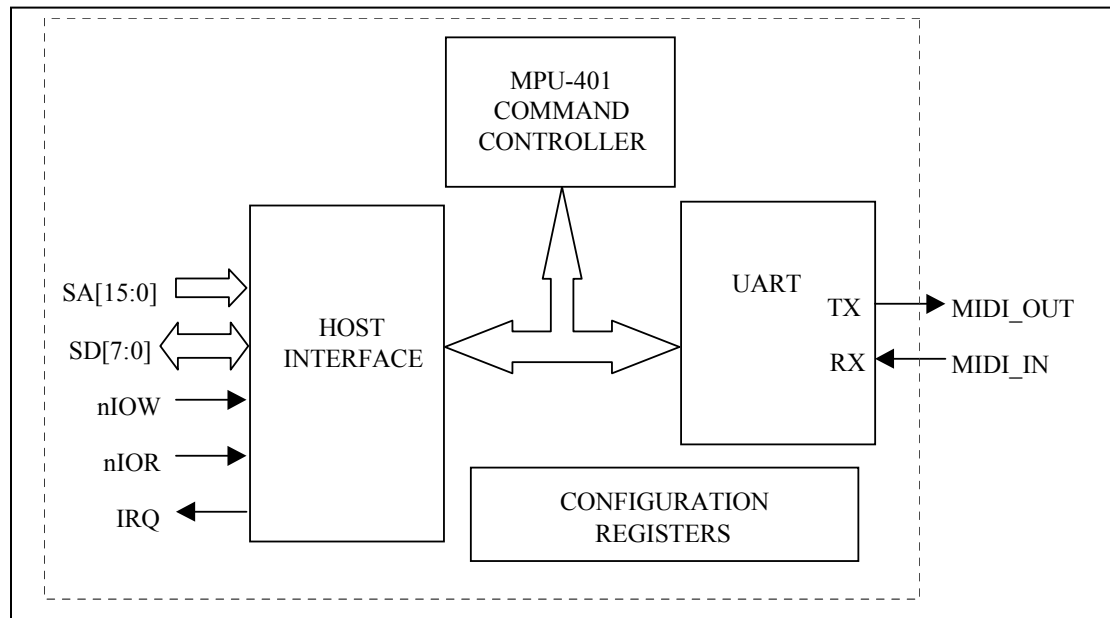

FIGURE 2 - MPU-401 MIDI INTERFACE
Serial Port 3 is used exclusively in the LPC47M112 as an MPU-401-compatible MIDI Interface. The LPC47M112 MPU-401 hardware includes a Host Interface, an MPU-401 command controller, configuration registers, and a compatible UART (Figure 2).
The Host Interface includes two contiguous 8-bit run-time registers (the Status/Command Port and the Data Port), and an interrupt. For illustration purposes, the Host Interface block shown in Figure 2 uses standard ISA signaling. Address decoding and interrupt selection for the Host Interface are determined by device configuration registers (see Section "MPU-401 Configuration Registers").
**Note**3 IRQ is the MPU-401 Host Interface IRQ shown in Figure 2. The UART Receive FIFO Threshold = 1.